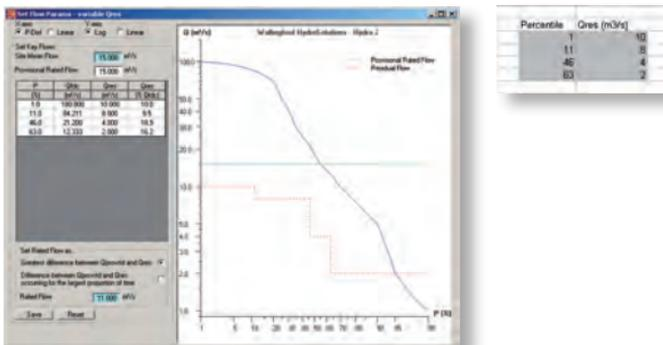
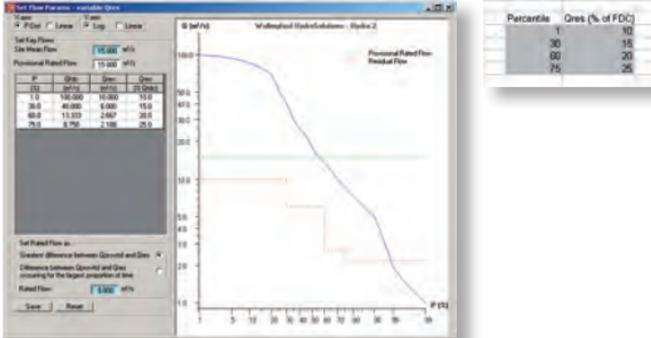

Figure 6.3 Qres defined as absolute flows (m^3/s)
Figure 6.4 Qres defined as percentage of the FDC flows (%)
- The second column can define the Qres values in one of two ways. Firstly, as flow values in absolute flow units (m^3/s), see Figure 6.3 for an example. Secondly as percentages of the flow in the river (ie. the FDC) in %, see Figure 6.4 for an example.